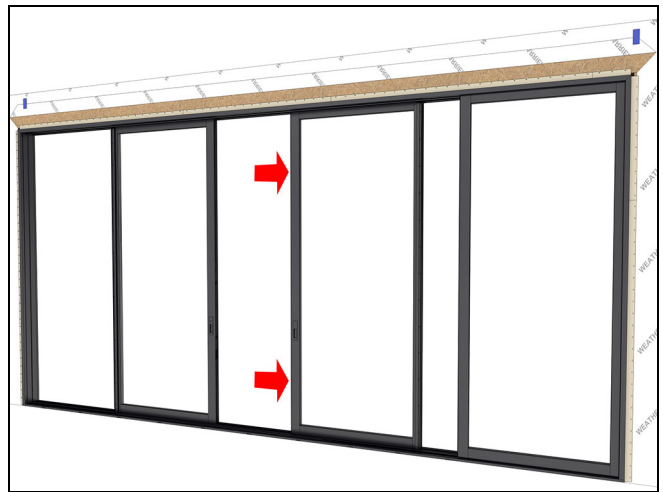

Figure 136
7. Move the (A) operator panel toward the right side jamb about 12" from the (H) stationary panel. See Figure 136.